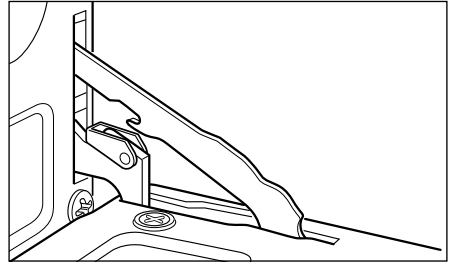
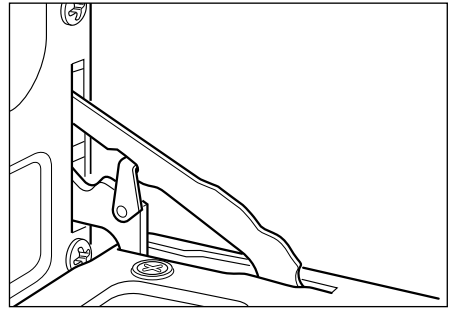

Fig.46a
Fig.46b
- 2 Hook the swivel retainers of the right-hand and left-hand hinges (Fig. 46a) onto the metal bar above them (Fig. 46b).